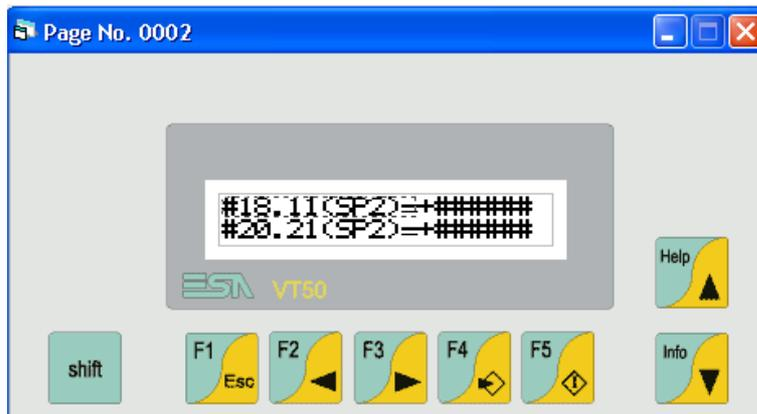

Fig. 29.
3.25 Page No. 0002 will look like the one shown in Fig. 29.